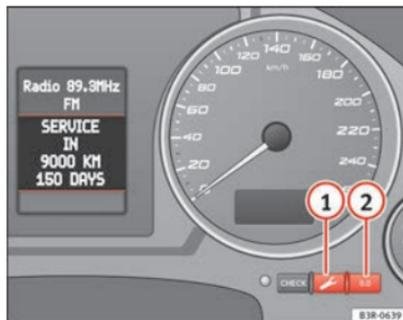

Fig. 53 Detailed view of the instrument panel: Service indicator
- Press the service button ⇒ Fig. 53 ① and hold while switching on the ignition. The display will show one of these messages: **Service in ----- km or Service!**
- Now press and hold the reset button ② until the display shows **Service in ----- km --- days or Service!**